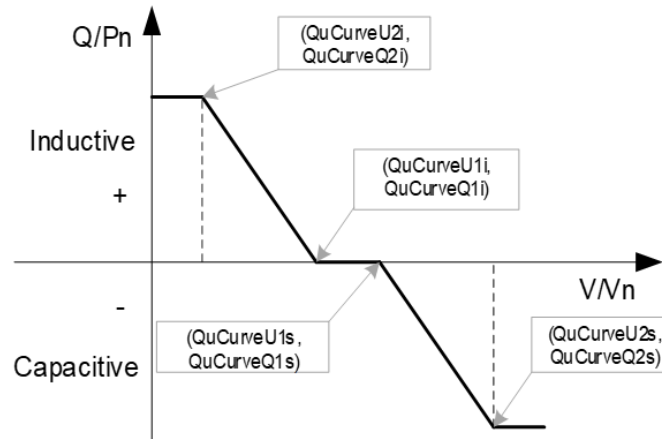

Figure 5-6 Q(U) Curve Mode
Q(U) Curve: Q(U) curve mode. The reactive compensation changes according to the grid voltage change (see Figure 5-6).